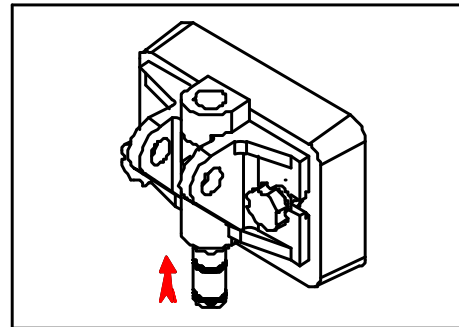

Figure 6-5
Step 4 Install the draw valve (Figure 6-5).